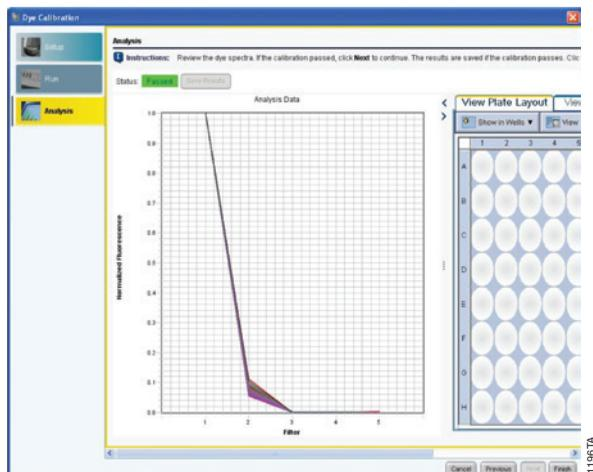

Figure 10. Acceptable spectra display. The expected dye spectra are shown in Section 8.J, Figure 60.
15. Once the calibration run is completed, select “Next” in the bottom right of the window (Figure 10). The software will display the spectra and indicate whether the spectra is acceptable (passed) under Status.